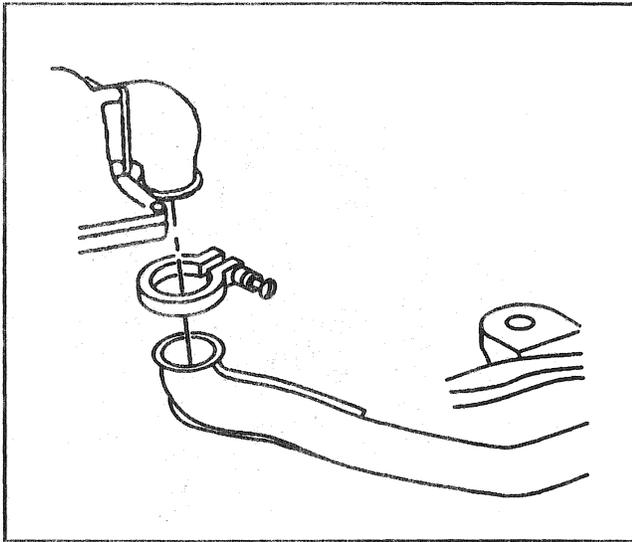

Figure 13—Exhaust Connection
10. Exhaust clamp at turbocharger (Figure 13).
6. Exhaust pipe to turbocharger with clamp (Figure 13).